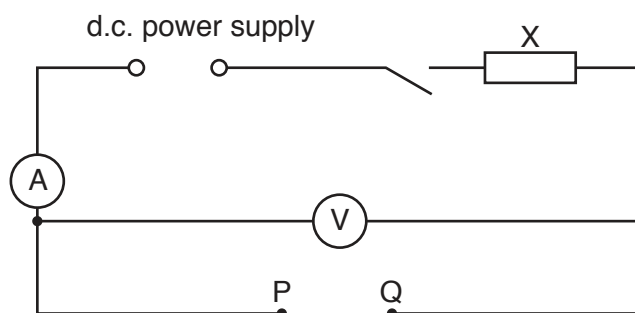

Fig. 3.1
3. The Supervisor should set up the apparatus as shown in Fig. 3.1. The terminals P and Q should be clearly labelled. **Candidates** will be required to connect either the $10\ \Omega$ resistor or the $22\ \Omega$ resistor between P and Q.
4. At the changeover, the apparatus should be restored to its original state as in Fig. 3.1, removing any of the resistors labelled with their nominal values from the circuit. There should be a gap between P and Q. If cells are used, they should be checked and replaced, if necessary.